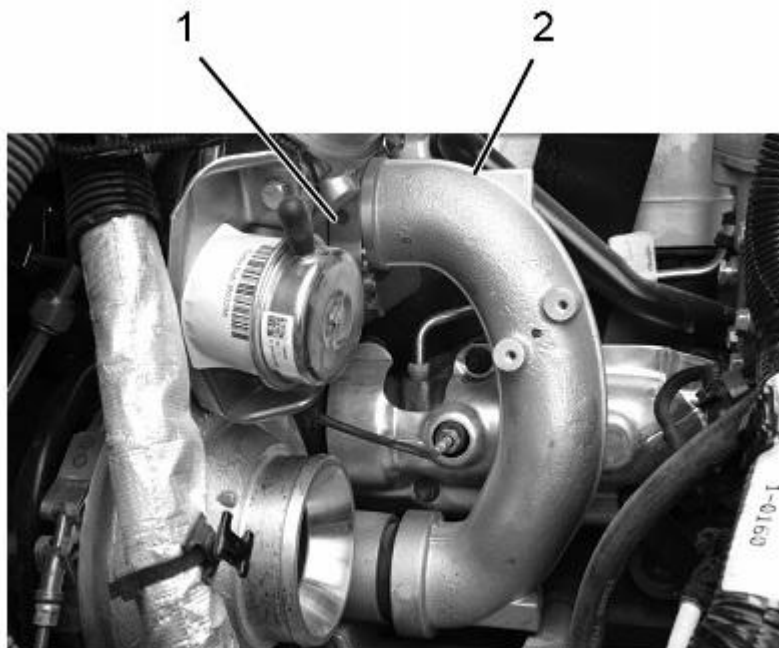

**Figure 16. Crossover Tube.**
13. Inspect crossover tube (Figure 16, Item 2) seal for damage. If damaged, discard seal.
15. Install crossover tube (Figure 16, Item 2) on to HP turbocharger with V-band clamp (Figure 16, Item 1).